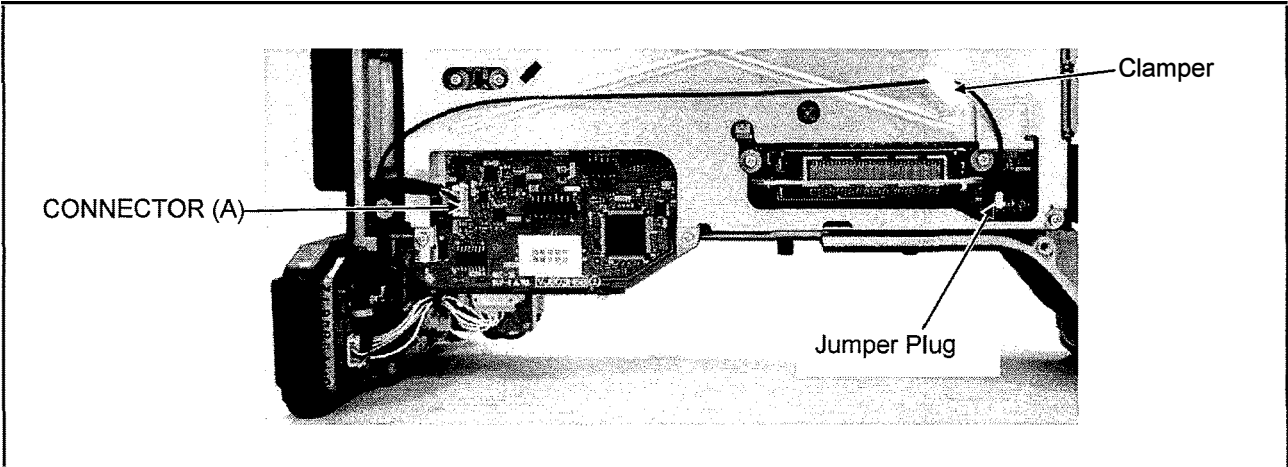

Figure 8-1
4. Disconnect a connector (A) as shown in figure 8-1.
5. Remove the jumper wire from the clammer as shown in figure 8-1.
6. Disconnect a jumper plug as shown in figure 8-1.